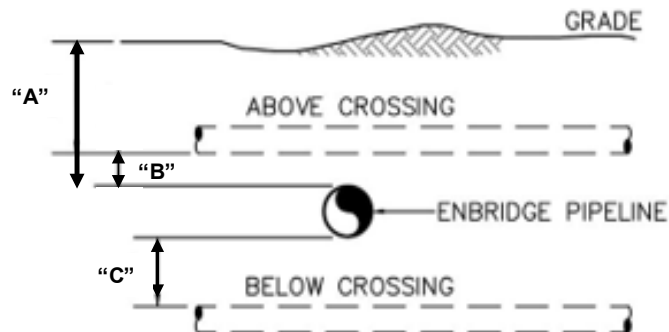

Figure 2: Facility Crossing – Typical Drawing
- facility crossing (see Figure 2: Facility Crossing – Typical Drawing)